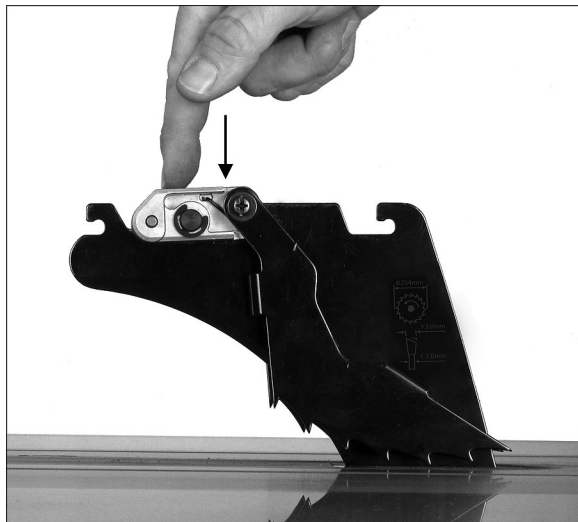

Figure 6-11
- Pivot head and push it downward (Figure 6-11) until there is an audible click. *Make sure you hear the click to verify that pawl assembly is secure.*